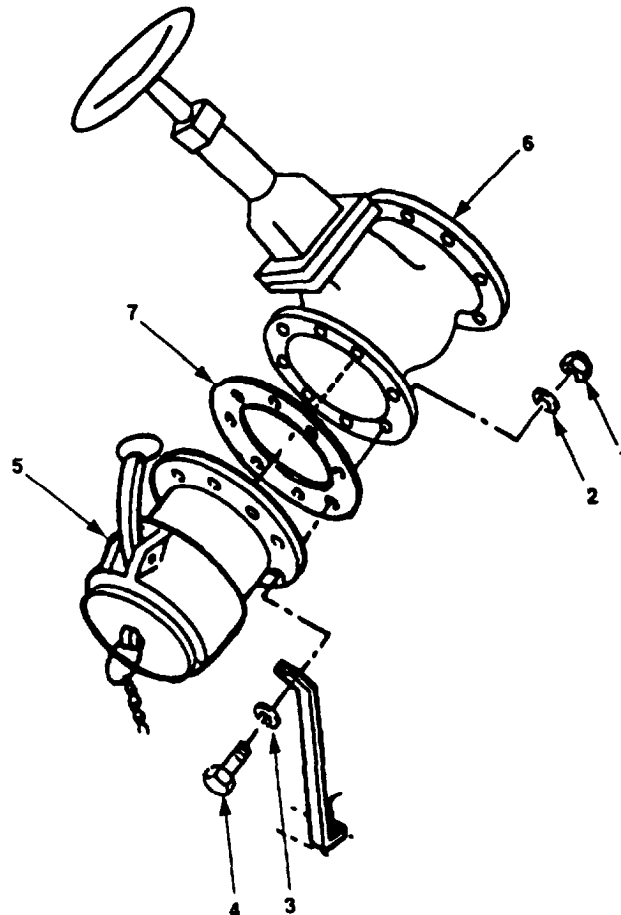

Figure 4-51. Coupling Half Maintenance.
- a. Remove eight nuts (figure 4-51, 1), lockwashers (2), one washer (3) and eight bolts (4) securing coupling half (5) to gate valve (6).
- b. Remove coupling half (5).
- c. Remove and discard gasket (7).